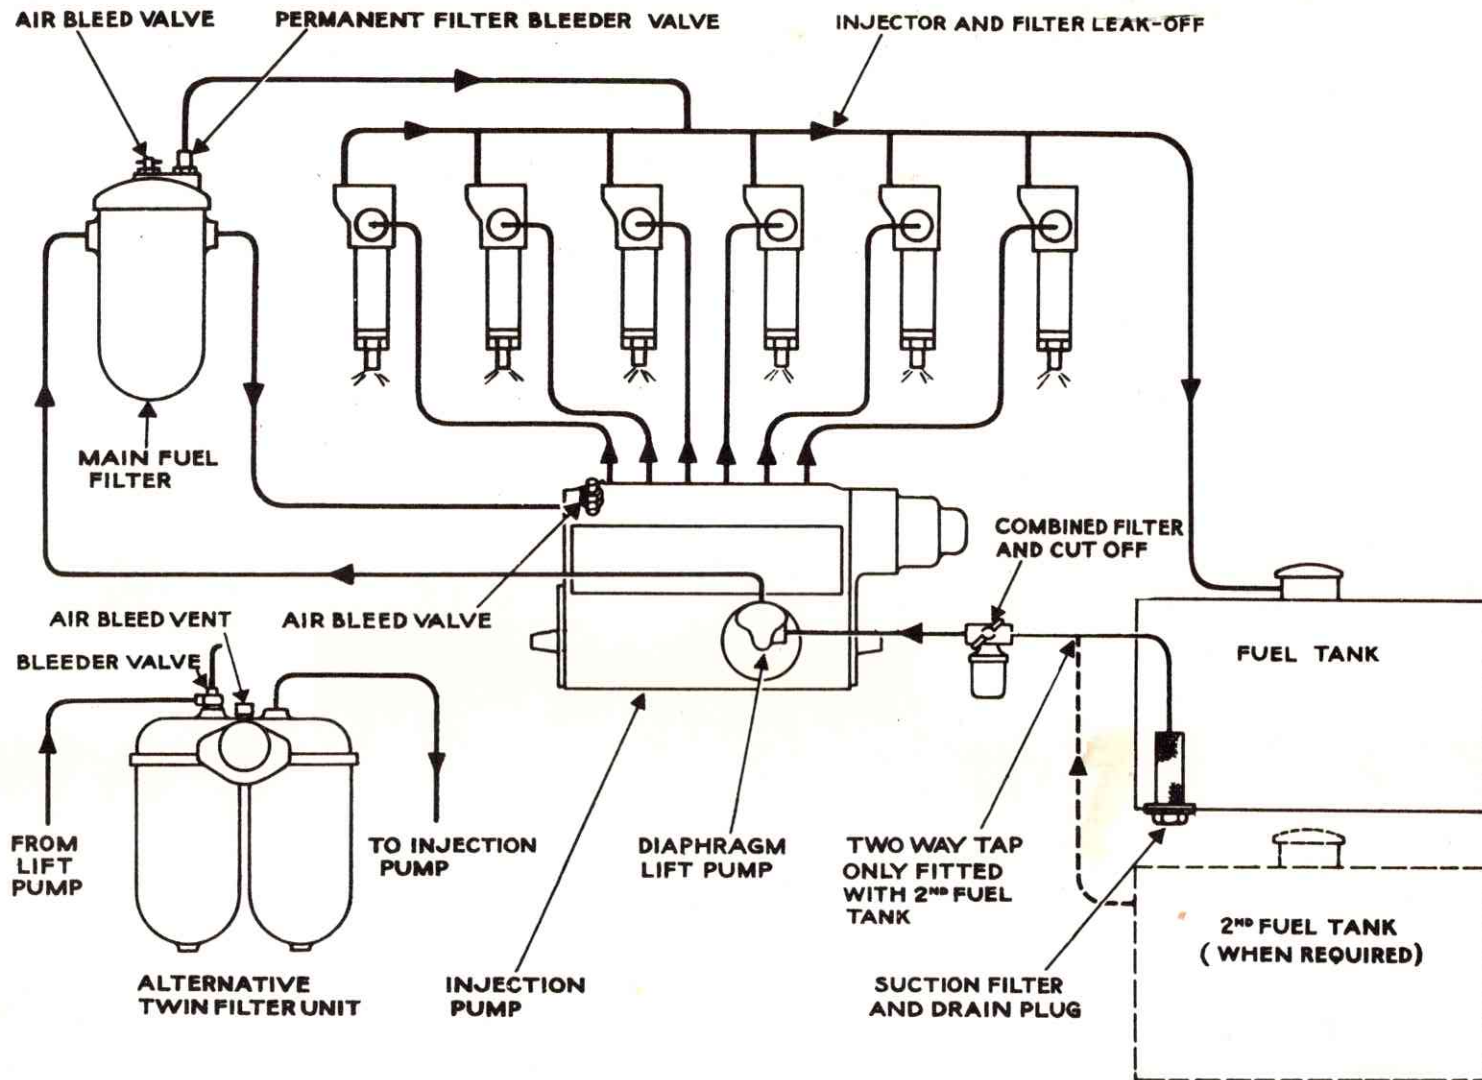

Fig. 1. Typical Fuel System Layout
4. Open the air bleed on the injection pump, see Fig.1, and repeat Operations 2 and 3